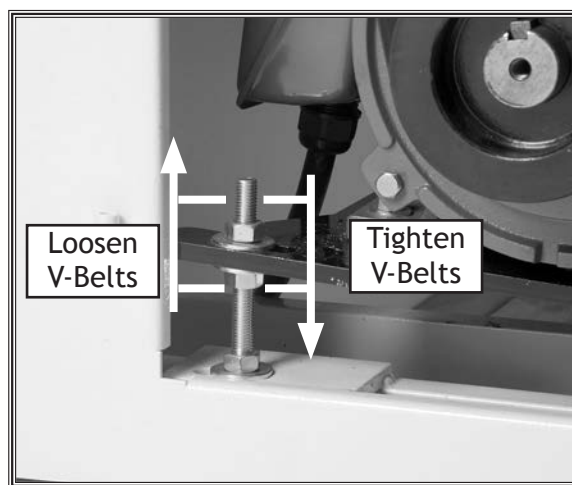

Figure 40. V-belt tension controls.
3. Using a 19mm wrench, turn the motor mount nuts in the direction shown in **Figure 40** to loosen or tighten the V-belts.